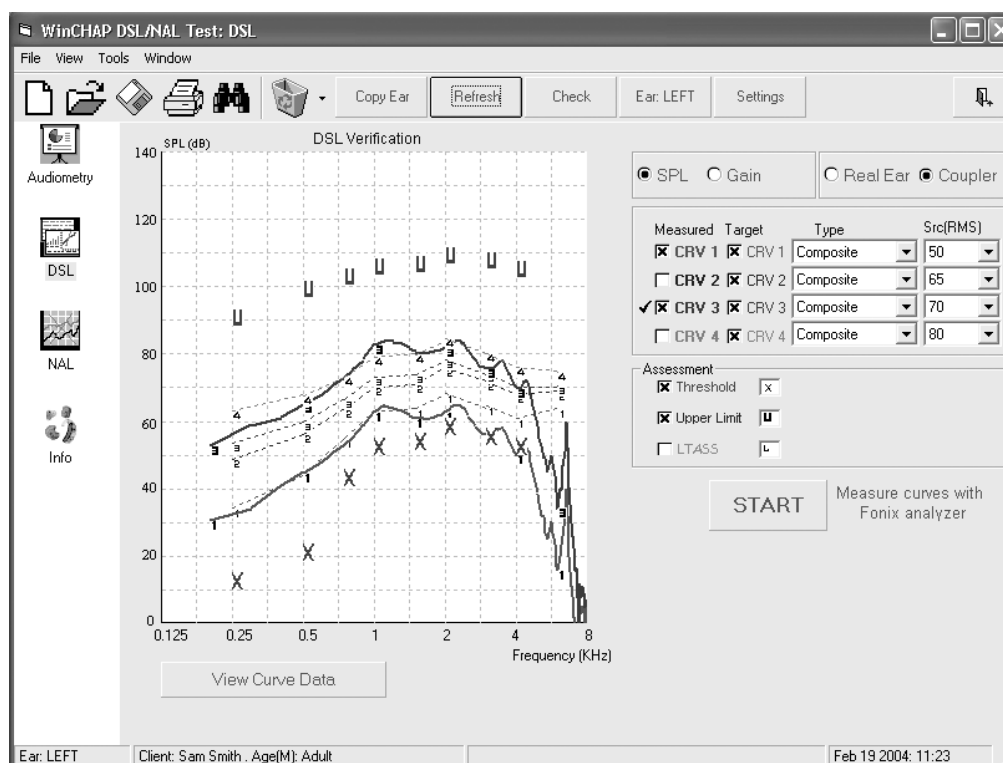

Figure 6.3.2—DSL window including measured curves
8. Repeat steps 3-7 to take any other desired measurements. WDRC aids are usually measured at 50, 65, 80, and 90 dB SPL. Linear aids are generally only measured at 65 and 90 dB SPL. See Figure 6.3.2.